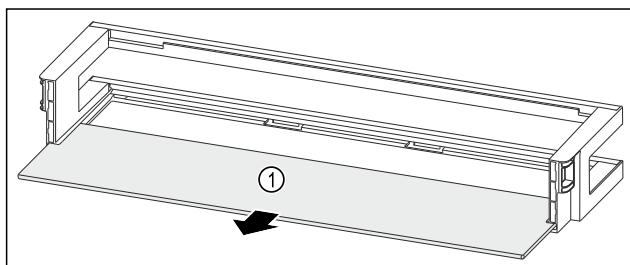

Fig. 115 Door rack with shelf
- ▶ Remove the shelf Fig. 115 (1).